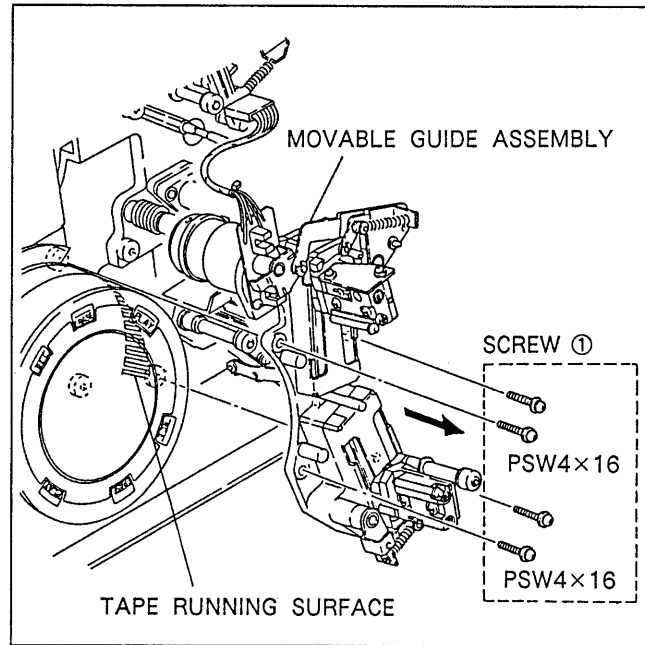

Fig. 6-4-5. Movable Guide Assembly Removal
6. Remove the movable guide assembly by removing the four screws ① shown in Fig. 6-4-5.